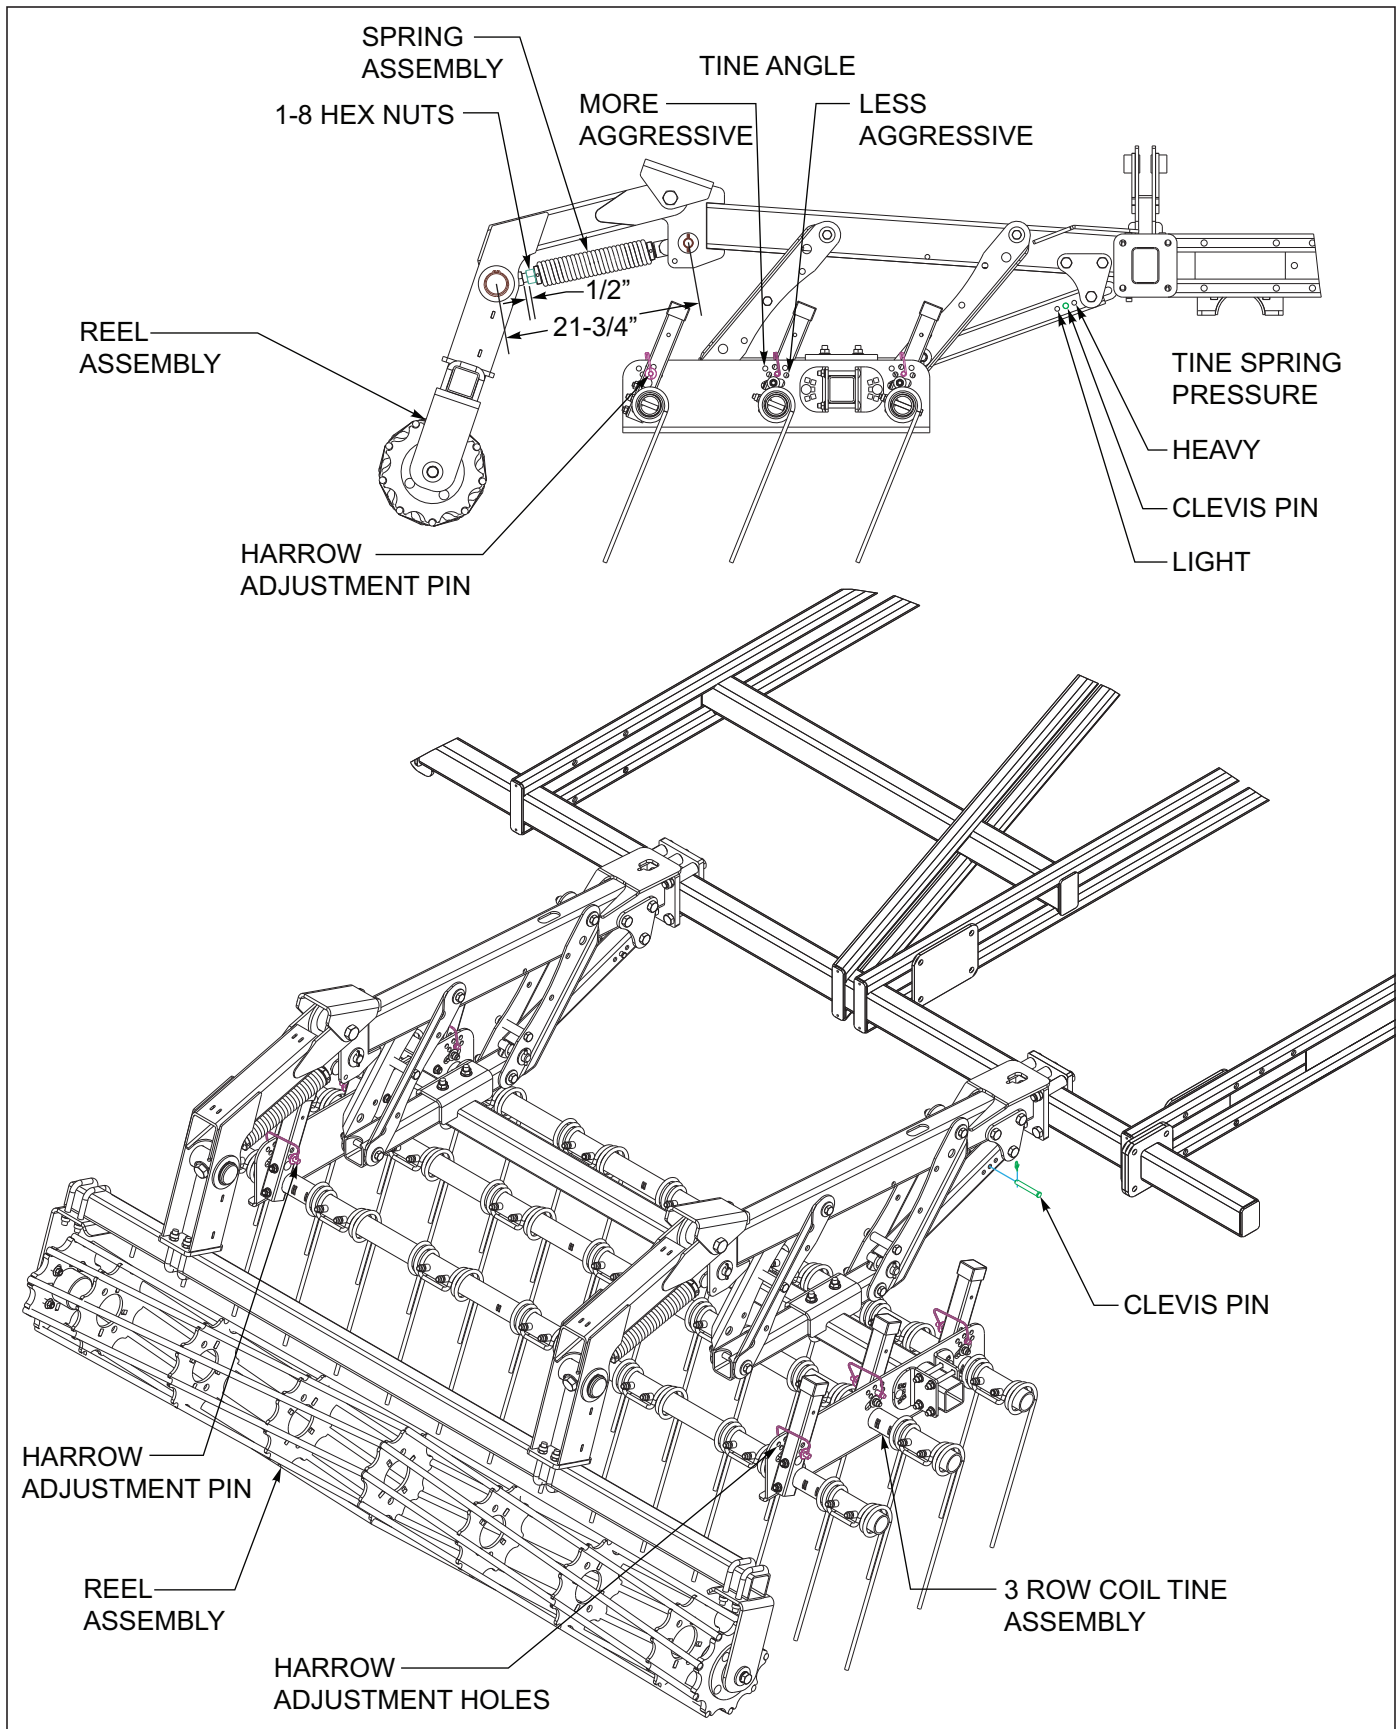

Figure 4-10: 3 Row Coil Tine and Reel Adjustments
3. In general tine harrows have better capabilities for handling more residue and wetter conditions. When operating the coil tine harrow, a more vertical tine tooth angle will make the harrow more aggressive. A lower/flatter tine angle will make the harrow less aggressive but will handle more residue and wetter conditions. To change the tine angle, raise the harrow off the ground. Remove the harrow pin from both angle adjustment tubes per tine gang bar tube **See Figure 4-10**. Rotate the angle adjustment tubes forward (less aggressive) or rearward (more aggressive) and reinstall both spring clip pins. Repeat the tine adjustment for each tine gang bar tube and harrow section.
4. Each coil tine harrow may be adjusted for spring pressure as well **See Figure 4-10**. Raise the tine harrow off the ground. Adjust the spring pressure the same for both harrow arms on each section. Remove the clevis pin from the spring tube and install in a heavy or light setting as needed. **Excessive spring pressure and tine angle can overload harrow spring.**
5. To adjust the reel height, loosen the locking hex nut against the threaded spring end **See Figure 4-10**.